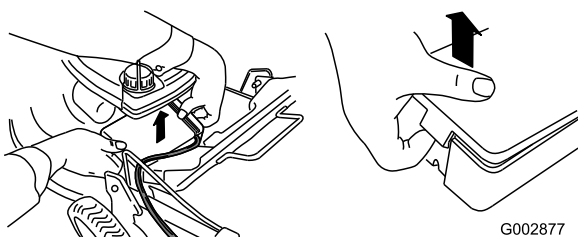

Figure 38
1. Unclip both ends of the battery cover and remove it (Figure 38).